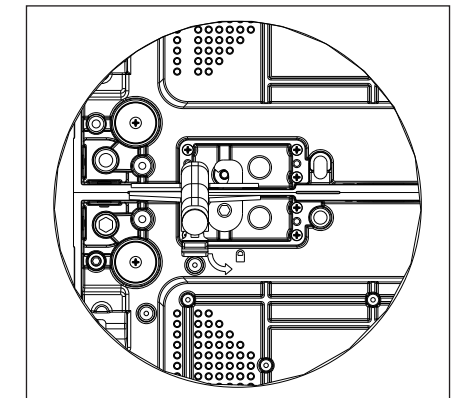

Figure 10: Engage Draw Latches
5. Engage the draw latches. Refer to **Figure 10**.